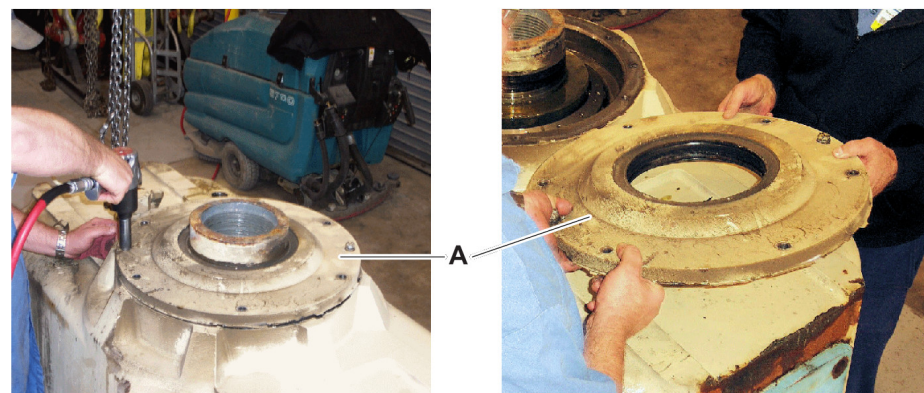

Figure 4
- Remove the lower spindle retainer (Figure 4, item A). Remove the O-ring and oil seals from the lower spindle retainer.